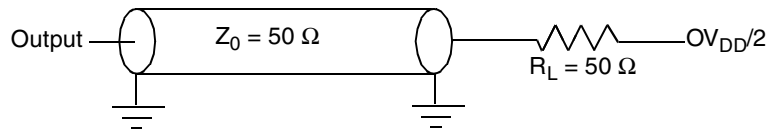

Figure 32. AC Test Load for the JTAG Interface
1. All outputs are measured from the midpoint voltage of the falling/rising edge of  $t_{TCLK}$  to the midpoint of the signal in question. The output timings are measured at the pins. All output timings assume a purely resistive 50-Ω load (see Figure 32). Time-of-flight delays must be added for trace lengths, vias, and connectors in the system.
2. The symbols used for timing specifications herein follow the pattern of  $t_{(first\ two\ letters\ of\ functional\ block)(signal)(state)(reference)(state)}$  for inputs and  $t_{(first\ two\ letters\ of\ functional\ block)(reference)(state)(signal)(state)}$  for outputs. For example,  $t_{JTDVKH}$  symbolizes JTAG device timing (JT) with respect to the time data input signals (D) reaching the valid state (V) relative to the  $t_{JTG}$  clock reference (K) going to the high (H) state or setup time. Also,  $t_{JTDXKH}$  symbolizes JTAG timing (JT) with respect to the time data input signals (D) went invalid (X) relative to the  $t_{JTG}$  clock reference (K) going to the high (H) state. Note that, in general, the clock reference symbol representation is based on three letters representing the clock of a particular functional. For rise and fall times, the latter convention is used with the appropriate letter: R (rise) or F (fall).
Figure 32 provides the AC test load for TDO and the boundary-scan outputs.
Figure 32 provides the AC test load for the I2C.